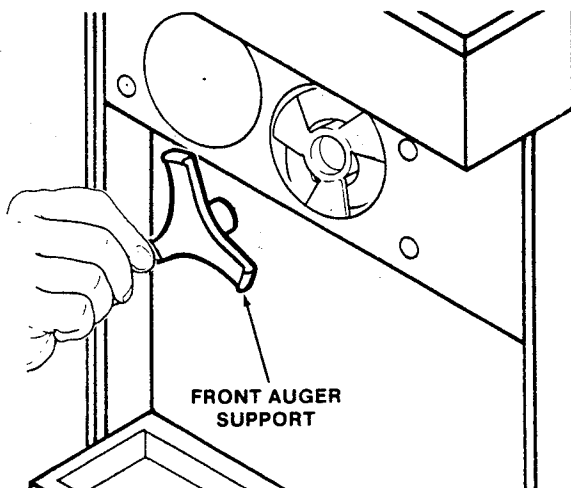

Figure 21. Removing Auger Supports
- D. Remove the front auger supports and bushings. (Fig. 21).